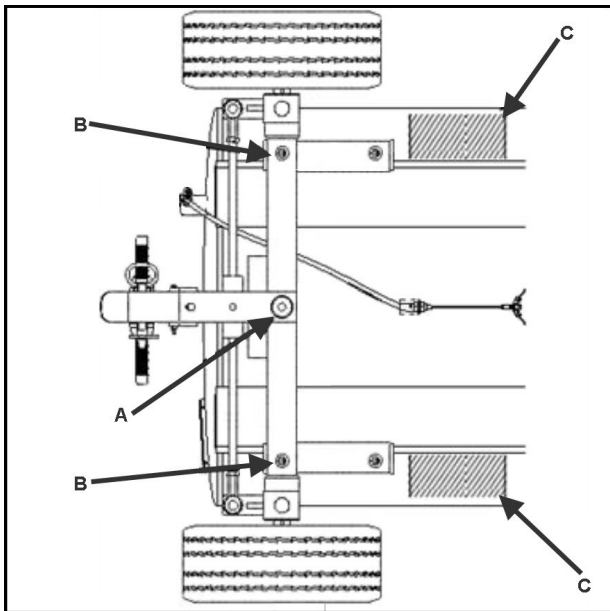

Figure 4-2 Lift Points
- Raise equipment with suitable maintenance jack (see Figure 4-2, arrow A for jack placement) high enough to remove wheel assembly.
- Place approved jack stands under front axle (see Figure 4-2, arrow B for stand placement).
To remove the entire Front Undercarriage assembly, the equipment must have the front end raised. See Figure 4-2 for lift points.
- Place cribbing under tank skids (see Figure 4-2, reference arrows C) to safely support the equipment.
- Remove bolts (2) and nuts (3).
- Pull Front Undercarriage forward. Note location of rubber mounting pads (5).
- Raise equipment with suitable maintenance jack high enough to remove wheel assembly. (See Figure 4-2, e arrow A for jack placement) .
- Place approved jack stands under rear axle (see Figure 4-2, arrow B for stand placement).